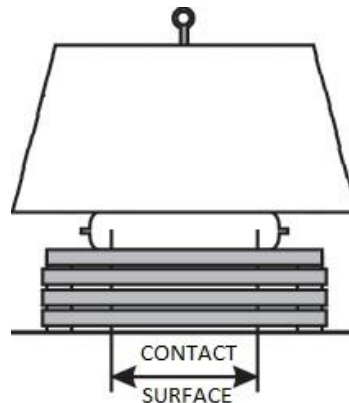

Figure 9 – Partial Fill / Contact Surface
- 5.4.2 During the inflation, as the air bag fills and develops a spherical shape (see Figure 9), the air column and lifting height are increasing, while the surface contact between the air bag and object is decreasing. This will result in less lifting force as the height increases.